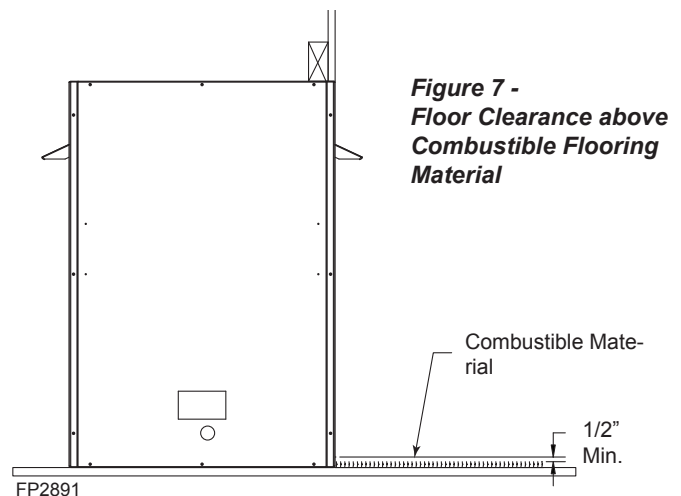

Figure 7 -
6. **Floor clearance** — This firebox hearth opening (inter-chamber floor) must be installed at least 1/2" above any combustible flooring material *Figure 7* or, the firebox hearth may be installed flush with the floor if noncombustible material such as slate or marble is installed between the base of the firebox and the combustible flooring. The firebox may be installed directly on a combustible floor or raised on a platform of an appropriate height. Do not place firebox on carpeting, vinyl, or other soft floor coverings. It may, however, be placed on a flat wood, plywood, particle board, or other hard surfaces. Be sure firebox rests on a solid continuous floor or platform with appropriate framing for support so that no cold air can enter room from under the firebox.